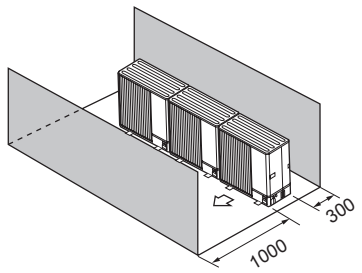

Fig. 4-33
- ④ Obstacles at front and rear only (Fig. 4-33)